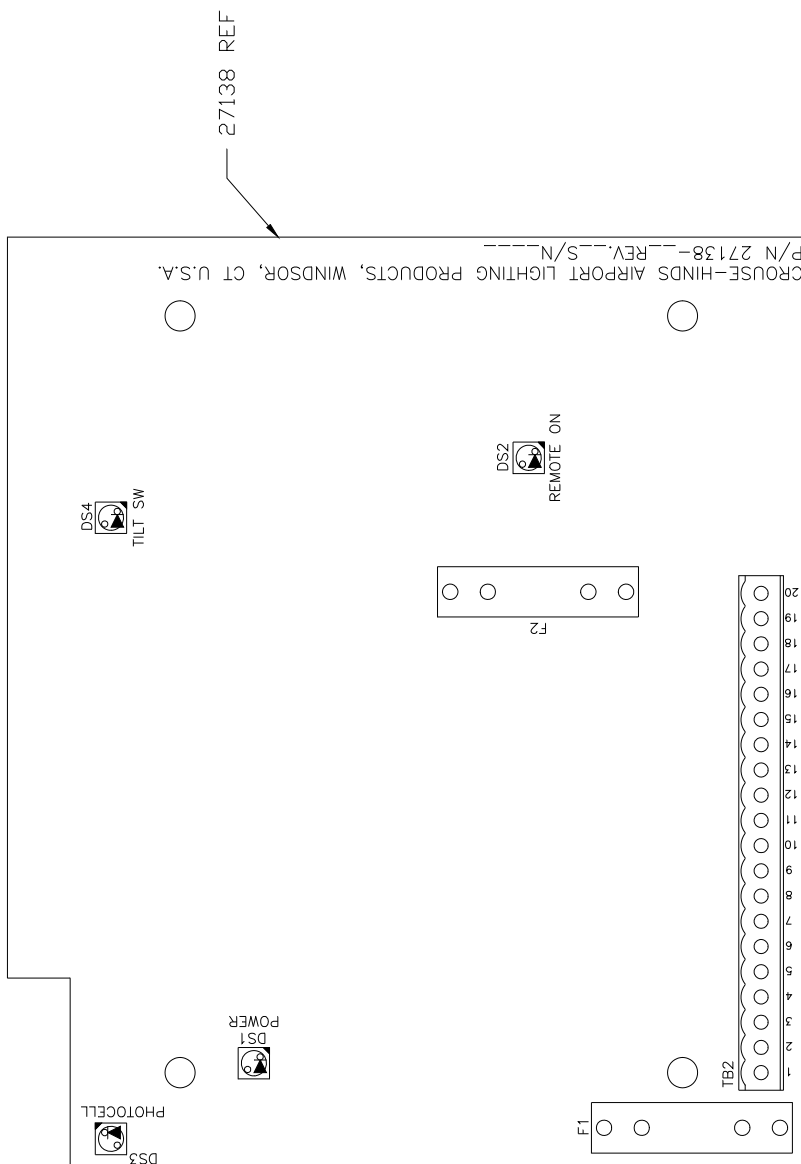

FIGURE 2-7
2.1.7.1 27138 PCU Control (Figure 2-7)